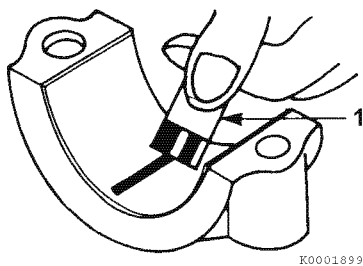

Figure 6-109
- 5- Compare the width of the flattened PLASTIGAGE to the graduation marks on the package (Figure 6-109, (1)). The mark that most closely matches the width of the flattened PLASTIGAGE will indicate the bearing oil clearance.